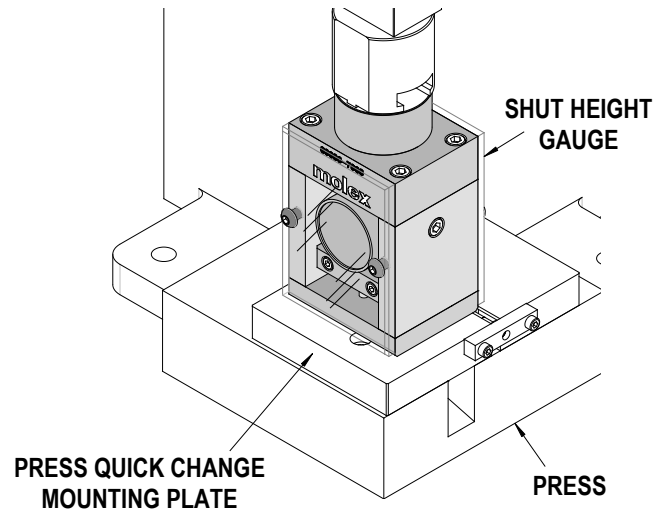

Figure 2-4
3. Place the shut height gauge onto the press quick change mounting plate. Align the gauge to the ram as shown in Figure 2-4.